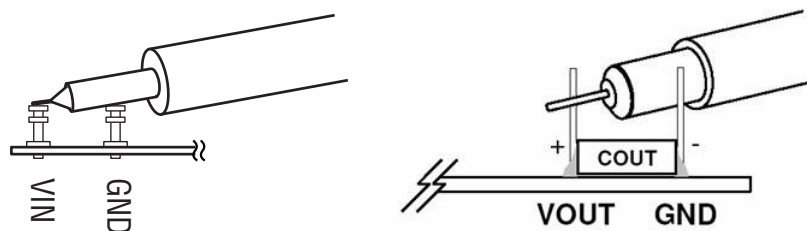

Figure 2. Measuring Input or Output Ripple Across Terminals or Directly Across Bulk Capacitor
**NOTE:** When measuring the input or output voltage ripple, care must be taken to avoid a long ground lead on the oscilloscope probe. Measure the input or output voltage ripple by touching the probe tip directly across the Vin or Vout and GND terminals. See Figure 2 for proper scope probe technique.